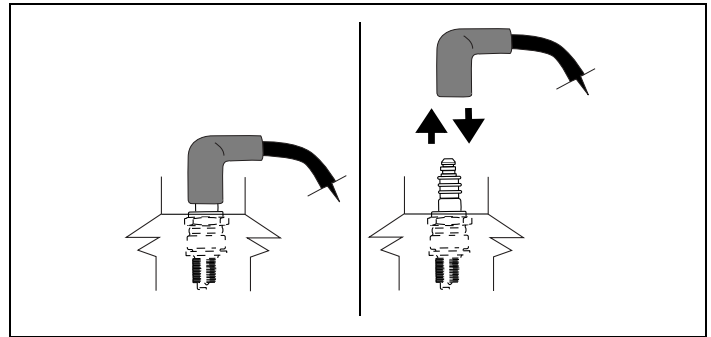

Figure 21. Disconnecting/Connecting Spark Plug
1. Carefully disconnect spark plug wire and keep it away from spark plug. See Figures 21 and 22.